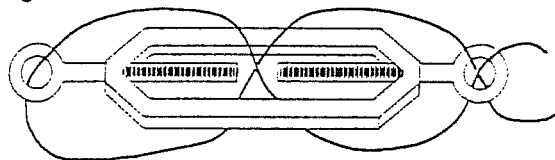

Figure 4-11
21. Take some mechanics wire and loop it through the turnbuckles as shown in Figure 4-11. This will prevent the turnbuckles from unwinding due to vibration of the guy wires in high winds.